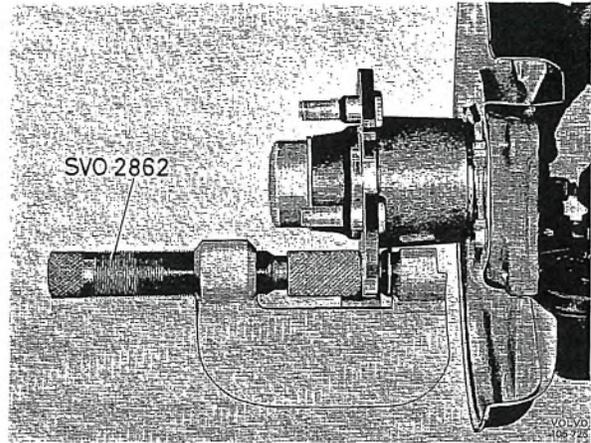

Fig. 7-15. Fitting wheel stud
7. Place the tool in position as shown in Fig. 7-15, and operate the nut runner to screw in the stud completely.